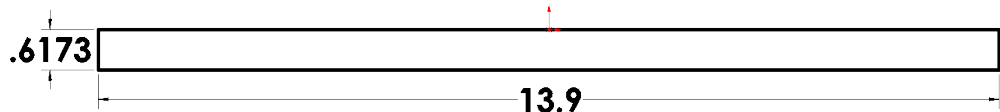

Fig. 4
Step 7. Click **Smart Dimension**  (S) on the Sketch toolbar.
Step 8. Dimension **.6173** by **13.9**, **Fig. 4**.